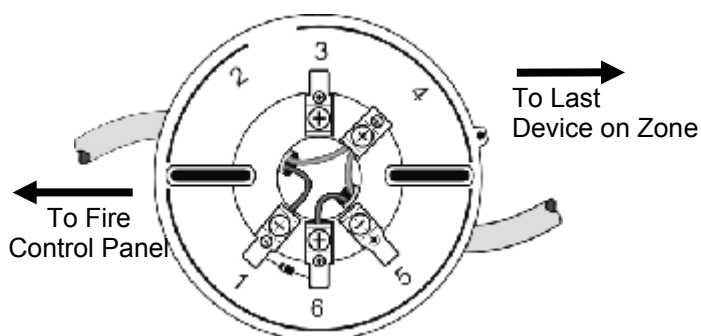

Figure 24: Fully wire detector base
- 8) Remove the output wiring to the next device and connect your EOL device across the zone wiring (see figures 24, 25).